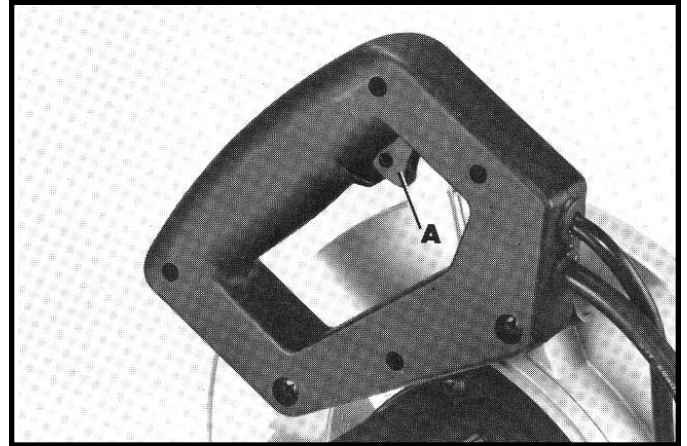

Fig. 13
To start the machine, depress switch trigger (A) Fig. 13. To stop the machine, release the switch trigger. This miter box is equipped with an automatic electric blade brake. As soon as the switch trigger (A) Fig. 13, is released, the electric brake is activated and stops the blade in seconds.
DANGER: A TURNING SAW BLADE CAN BE DANGEROUS. AFTER COMPLETING CUT, RELEASE SWITCH TRIGGER (A) FIG. 13, TO ACTIVATE BLADE BRAKE. KEEP CUTTINGHEAD DOWN UNTIL BLADE HAS COME TO A COMPLETE STOP.